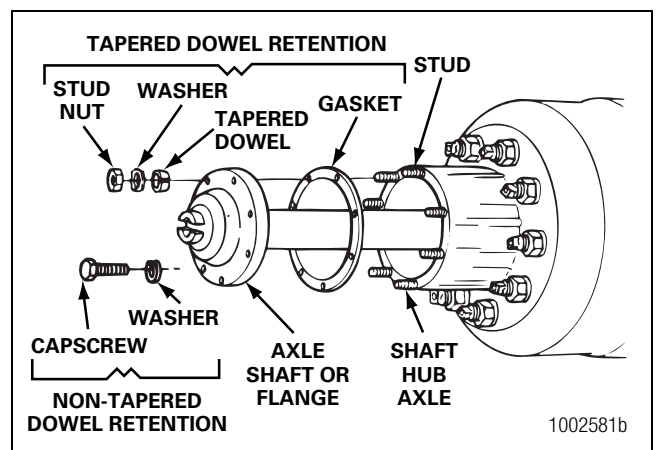

Figure 11.11
6. Remove the stud nuts or capscrews and washers from the flange of the axle shaft. Figure 11.11.
7. Loosen the tapered dowels, if used, in the flange of the axle shaft. Figure 11.11. Refer to Section 3.
- Remove the tapered dowels, gasket, if used, and the axle shaft from the axle assembly. Figure 11.11.
- Install the gasket, if used, and axle shaft into the axle housing and carrier in the same location. The gasket and flange of the axle shaft must be flat against the hub. Rotate the axle shaft or the driveline as necessary to align the splines and the holes in the flange with the studs in the hub. Figure 11.11.